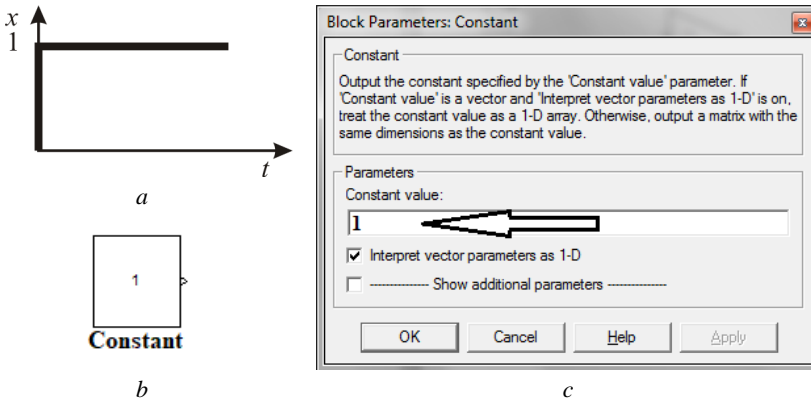

Figure 1.15 – Unit step function, its icon as the Constant block and setting data in the Constant block
- the input signal, the **unit step function** increases instantly from zero to one and remains unchanged, as shown in Figure 1.15,*a*.
The unit step function is described by the equation $x(t) = 1(t)$ and is set by the Constant block. The Constant block icon is shown in Figure 1.15,*b*.
Enter 1 in the *Constant value* field of the **Block Parameters: Constant**, as shown in Figure 1.15,*c*: